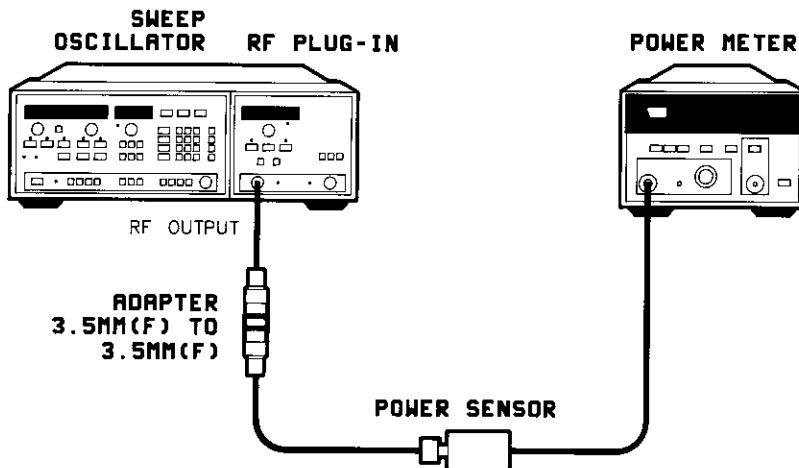

Figure 4-2. Output Amplitude Test Setup
1. Connect the equipment as shown in Figure 4-2. Do not connect the power meter/sensor to the HP 83595A power output. Allow at least one hour of warm-up.